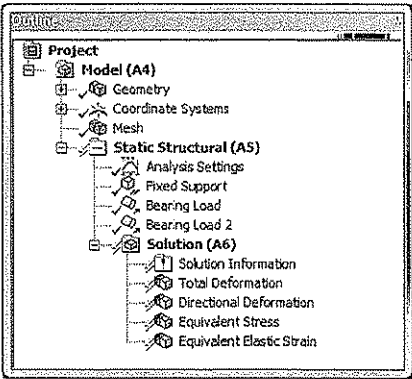

Figure 9-73 Tree Outline after the results are added
- 3. Similarly, using the **Directional Deformation**, **Von-mises Stress** and **Von-mises Strain** tools from the drop-downs available in the **Solution** contextual toolbar, you can insert the corresponding results. The Tree Outline after the results are added is shown in Figure 9-73.